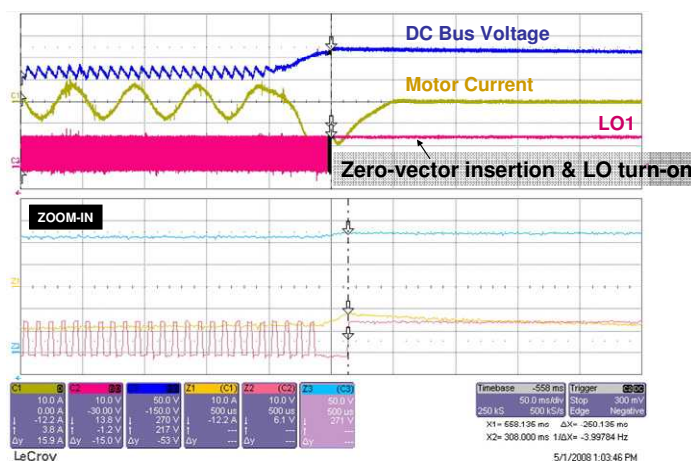

Figure 19: Zero vector insertion during IRS26310DJ DC Bus overvoltage protection
- i. The Decel Rate parameter in software GUI is used to define the ramp-down characteristic of the induction motor during halting. A smaller value halts the motor more abruptly. By engaging an abrupt stop of the induction motor when running at a high speed under loaded condition, it is possible to create a DC bus voltage overshoot during motor stop. Zero vector insertion is triggered when the overshoot exceeds 386V. **For more information regarding the Decel Rate parameter please refer to “Software GUI Reference Guide” section.** Further, by changing resistor R37, it is also possible to decrease the DC bus overvoltage level at which the protection is triggered to suit other test conditions such as AC input voltage level, motor speed, load-under-test etc. For example, in Fig.19 where zero-vector insertion is activated during motor stop, the reference design was modified to trigger DC Bus overvoltage protection feature at 275V.